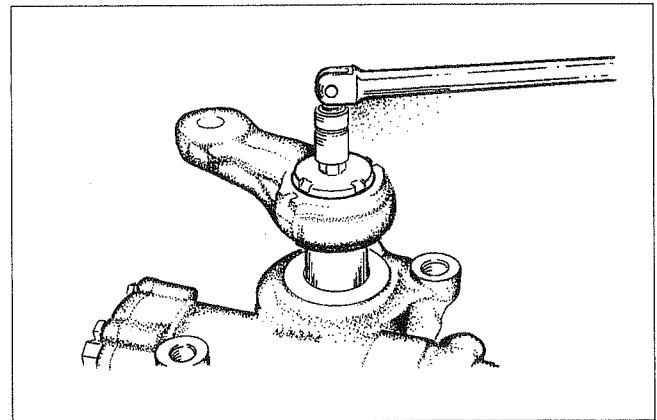

Figure 7
4. Remove the retainer (Figure 7).